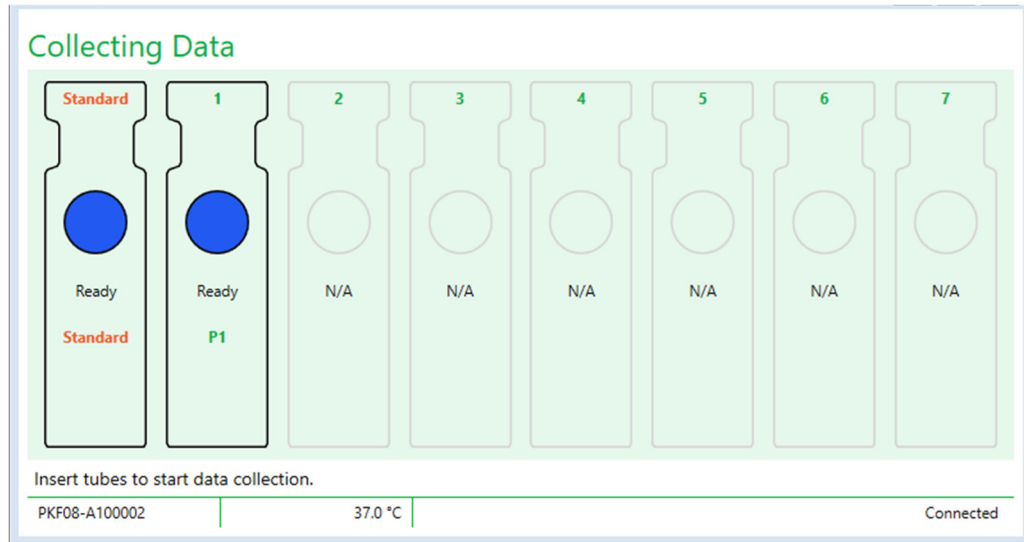

Figure 12. BG Analytics® Collecting Data Screen, Ready for Data Collection
1. On **Collecting Data** screen, the status for each well with Sample ID is “Ready” (as shown in Figure 12).